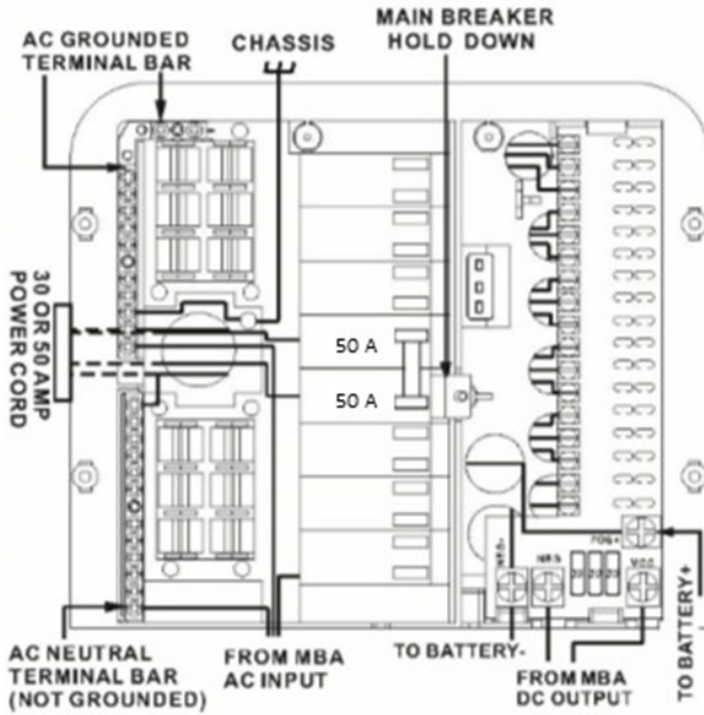

Figure 6
**** Make sure no AC power is coming into the RV from either the Shore Power cord or an on-board generator.** Determine the proper size breakers for the loads the WF-9500 Series will be powering. You can use either single or duplex breakers, or a combination of both. We recommend that all the breakers used be of the same brand. When using duplex style circuit breakers, a total of fourteen (14) breakers can be mounted in the WF-9500 Series Power Center, two (2) Main breakers and twelve (12) Branch breakers. Refer to the tables on pages 5 and 6 for a selection of approved breakers. The Main breaker should be a 2-pole, 50 Amp type and should be installed in the center position (See Figure 6 on page 13). A hold down clip is provided to keep the breaker securely in place.
The 50 Amp power cord is routed through the largest knockout in the wiring compartment and secured with a listed strain relief clamp. A 50 Amp power cord has 4 leads; Black (HOT1), Red (HOT2), Neutral (White), and Ground (Green). The Black (HOT1) wire is connected to one side of the 2-pole 50 Amp Main breaker as shown in Figure 6 on page 13. The Red (HOT2) is connected to the other side. The White (Neutral) wire is connected to the Neutral Terminal bar at the bottom left of the wiring compartment. The Green (Ground) wire is connected to the Ground Terminal bar located at the top left of the compartment.